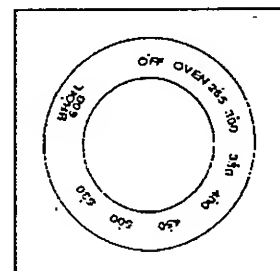

Figure 7
- The surface burners are controlled by knobs located on control panel at front side of the appliance, as seen in Figure 7.
- The oven is controlled by a knob located at left side of control panel. (See Figures 7 & 8)
The switch located at the extreme left of the control panel turns the oven light on and off (See Figure 7). When the button is depressed, the light will be on. (DG24CW / DG24CSS)